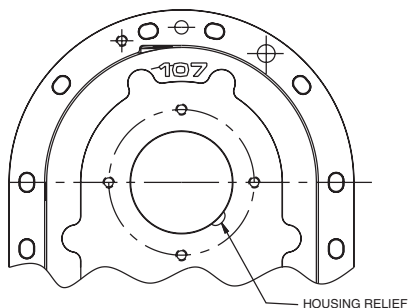

Figure 1-1
1.1.2 On the side opposite of the input shaft, place a straight blade screwdriver in the housing relief next to the metal shield of the "Barrier" sealing system. Tap the screwdriver blade into the side of the metal shield. Pry the metal shield out of the reducer. Refer to Figure 1-1.